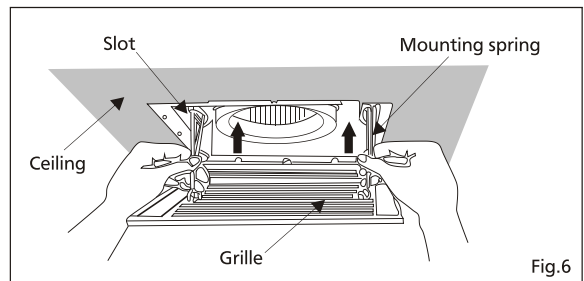

Fig.6
8. Insert mounting springs into slots as shown and mount grille to fan body. (Fig.6)